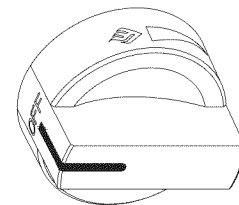

Fig. 17
2. Push and turn the knob slowly counterclockwise to the ignite position () as shown in **Fig. 17**. Keep pushing until the burner lights and then release. Repeat for additional burners.